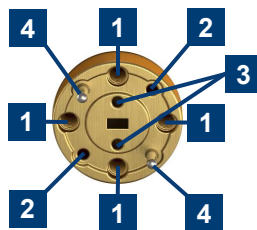

Figure 3-1: Waveguide flange
4. If you want to use precision alignment dowels, insert them into the holes intended for them. See (3) in Figure 3-1.
5. Align the pins, dowels and corresponding receiving holes of the sensor and DUT carefully. See also Figure 3-1. Avoid scratching the contact surfaces of the waveguide flanges.